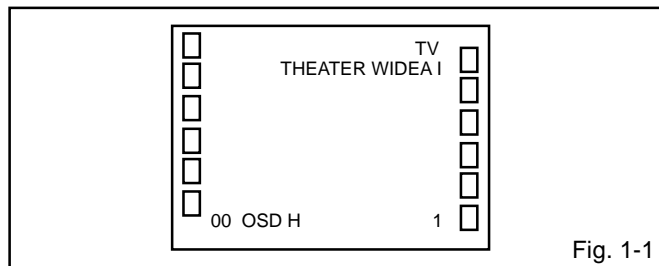

Fig. 1-1
Press the VOL. DOWN button on the set and the Channel button **(9)** on the remote control for more than 2 second to appear the adjustment mode on the screen as shown in **Fig. 1-1**.
4. Activate the adjustment mode display of **Fig. 1-1** and press the channel button **(01)** on the remote control to select "CUT OFF".
4. Activate the adjustment mode display of **Fig. 1-1** and press the channel button **(24)** on the remote control to select "R.BIAS".
6. Adjust the VOL. UP/DOWN button on the remote control to whiten the R.BIAS(C), G.BIAS(C), B.BIAS(C), R/G.DRV(C), B/R.DRV(C), R.BIAS(W), G.BIAS(W), B.BIAS(W), R/G.DRV(W) and B/R.DRV(W) at each step tone sections equally.
3. Activate the adjustment mode display of **Fig. 1-1** and press the channel button **(00)** on the remote control to select "OSD H".
6. Activate the adjustment mode display of **Fig. 1-1** and press the channel button **(02)** on the remote control to select "H.POSI".
9. Activate the adjustment mode display of **Fig. 1-1** and press the channel button **(04)** on the remote control to select "H. SIZE".
7. Activate the adjustment mode display of **Fig. 1-1** and press the channel button **(11)** on the remote control to select "V. CENT".
10. Activate the adjustment mode display of **Fig. 1-1** and press the channel button **(07)** on the remote control to select "V. SIZE".
7. Activate the adjustment mode display of **Fig. 1-1** and press the channel button **(06)** on the remote control to select "V. LIN".
4. Activate the adjustment mode display of **Fig. 1-1** and press the channel button **(43)** on the remote control to select "BRI CENT".